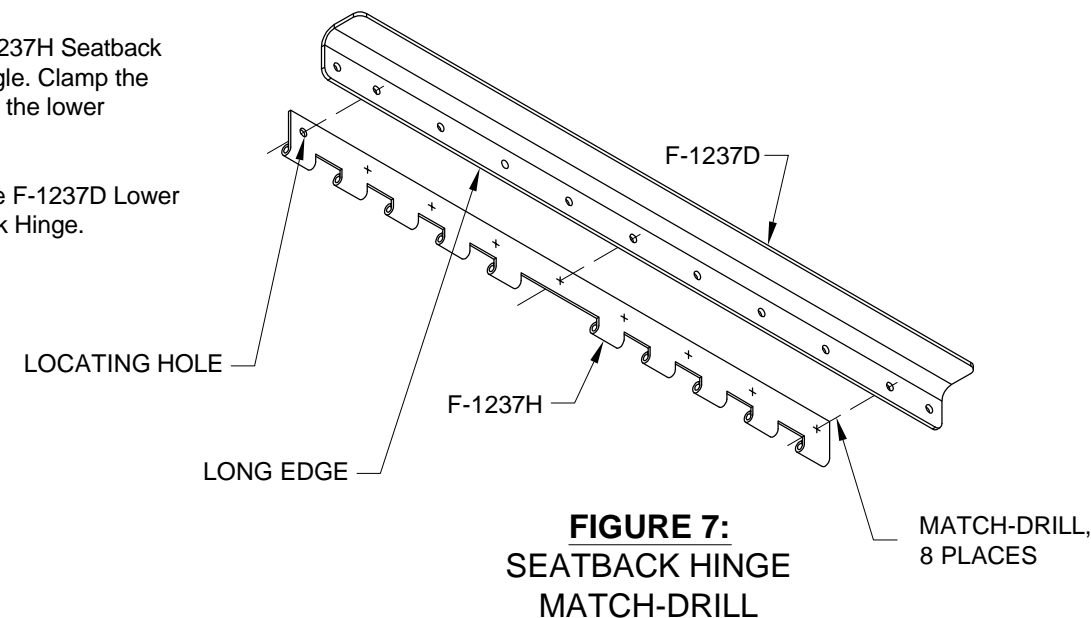

**FIGURE 6:**
**Step 10:** Cleco the locating hole of the F-1237F Aft Seatback Brace Hinge to the F-1237G Seatback Brace. Clamp the hinge securely in place parallel to the long edge of the seatback brace as shown in Figure 6.